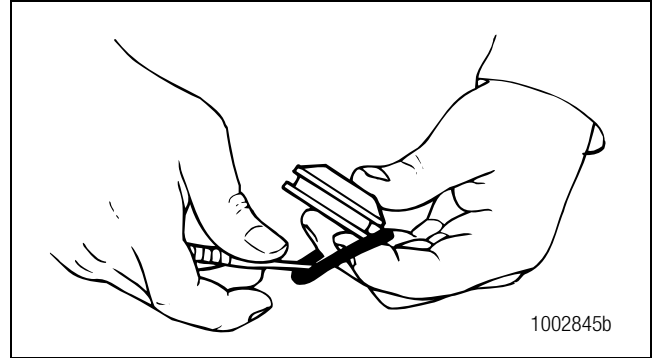

Figure 6.9
6. Carefully remove the O-ring from the piston. Use a thin pointed tool to remove the O-ring. Do not damage the piston. Figure 6.9.